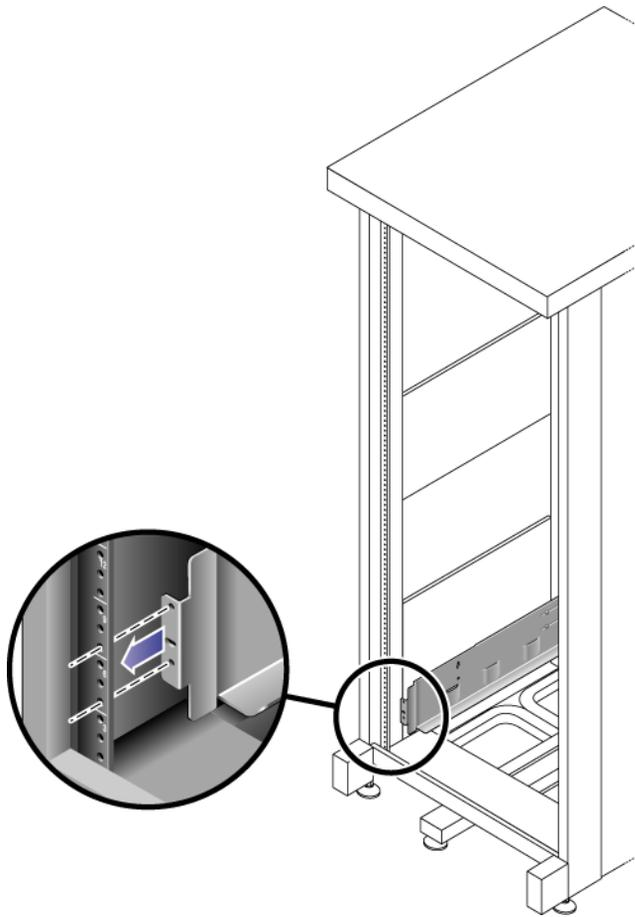

FIGURE 2-2 Positioning the Front of the Left Rail Behind the Left Front Cabinet Rail
1. Position the front of the left rail behind the left front cabinet rail (FIGURE 2-2).